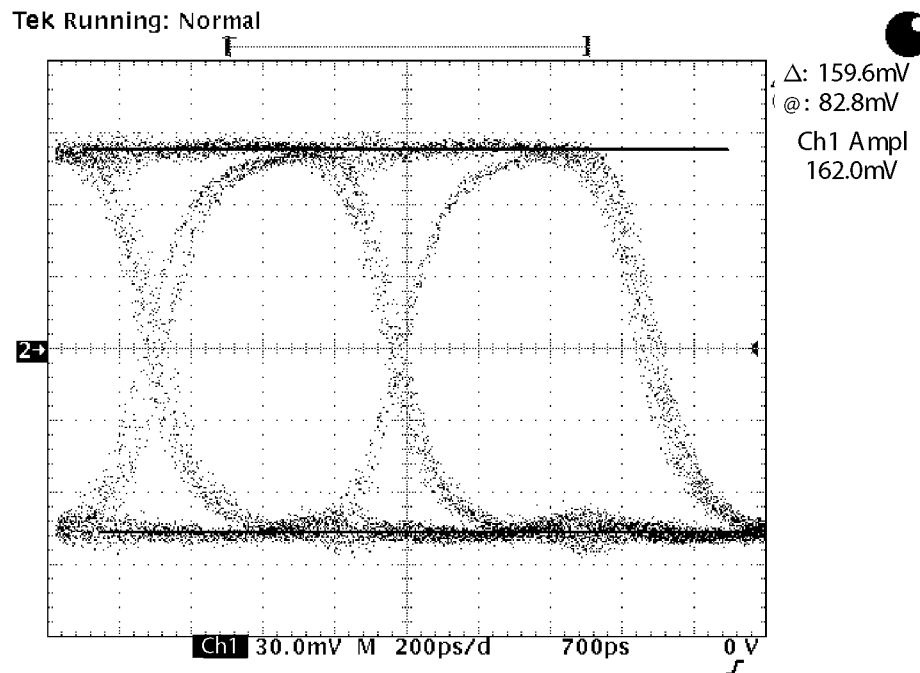

Figure 31: Example of eye pattern for an acceptable output signal
7. Check that SIGNAL 2 eye pattern displayed on the sampling oscilloscope is fully open. (See Figure 31.)
10. Check that BLACK 1 eye pattern displayed on the sampling oscilloscope is fully open. (See Figure 31.)
13. Check that SIGNAL 2 eye pattern displayed on the sampling oscilloscope is fully open. (See Figure 31.)